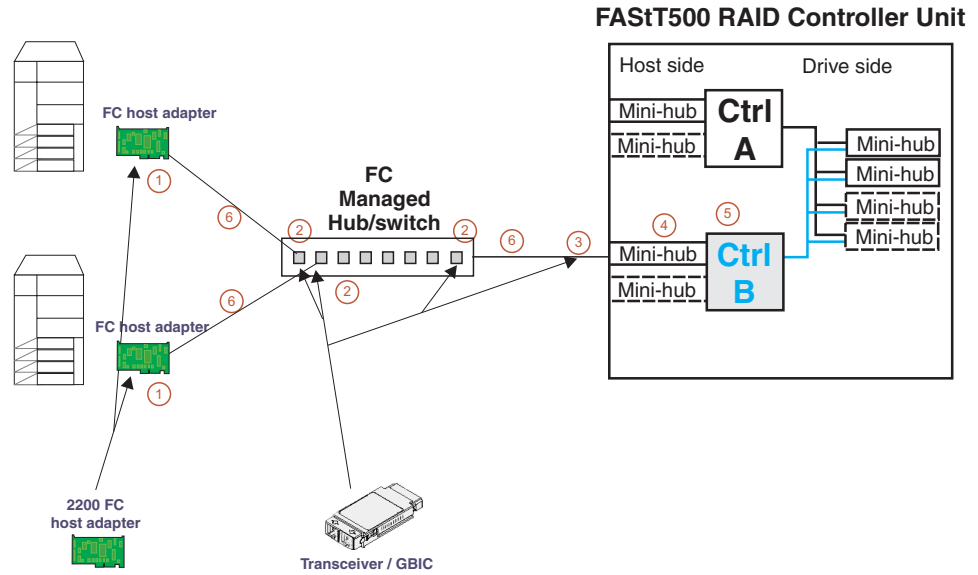

Figure 127. Path elements loop
3. To see more clearly what is involved, redraw the configuration showing the path elements in the loop, as shown in Figure 127 on page 309.
The elements of the paths shown in Figure 127 are as follows: